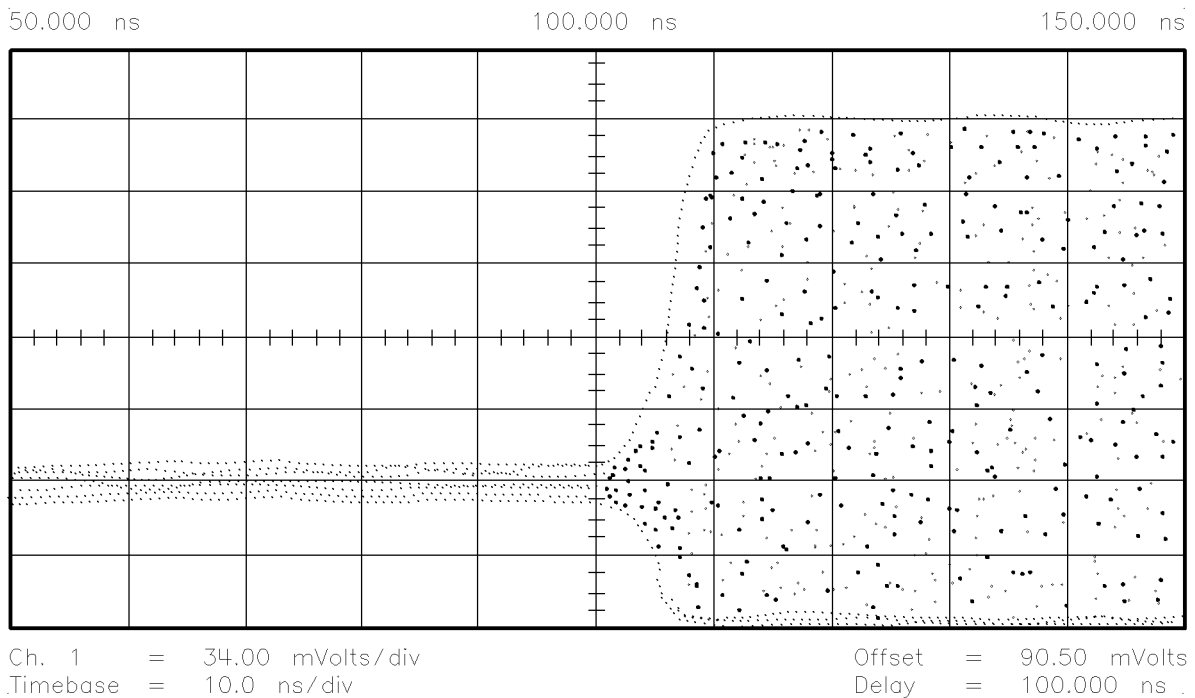

Figure 2-19. Signal Level between RF Power Off and On
- b. Adjust the channel 1 volts/division and offset to obtain a 5 division signal level between the RF power off and the RF power on (see Figure 2-19).